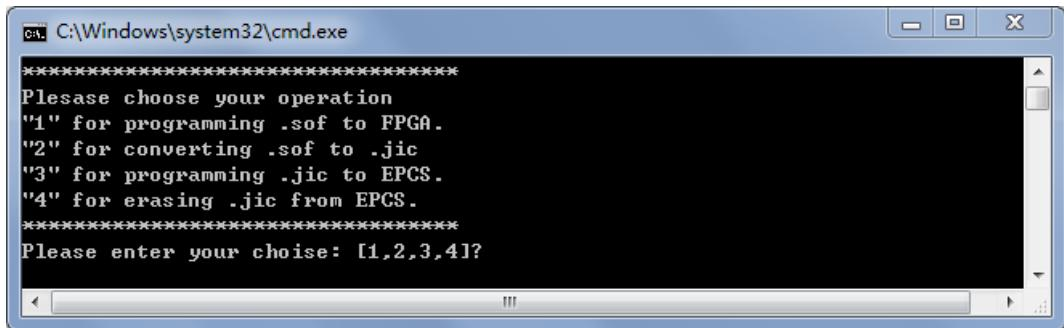

Figure 5-1 Command line of the batch file to program the FPGA and EPCS device
4. As shown in **Figure 5-1**, It is able to not only load the bit stream into the FPGA in command line, but also program or erase .jic file to the EPCS by executing the batch file.